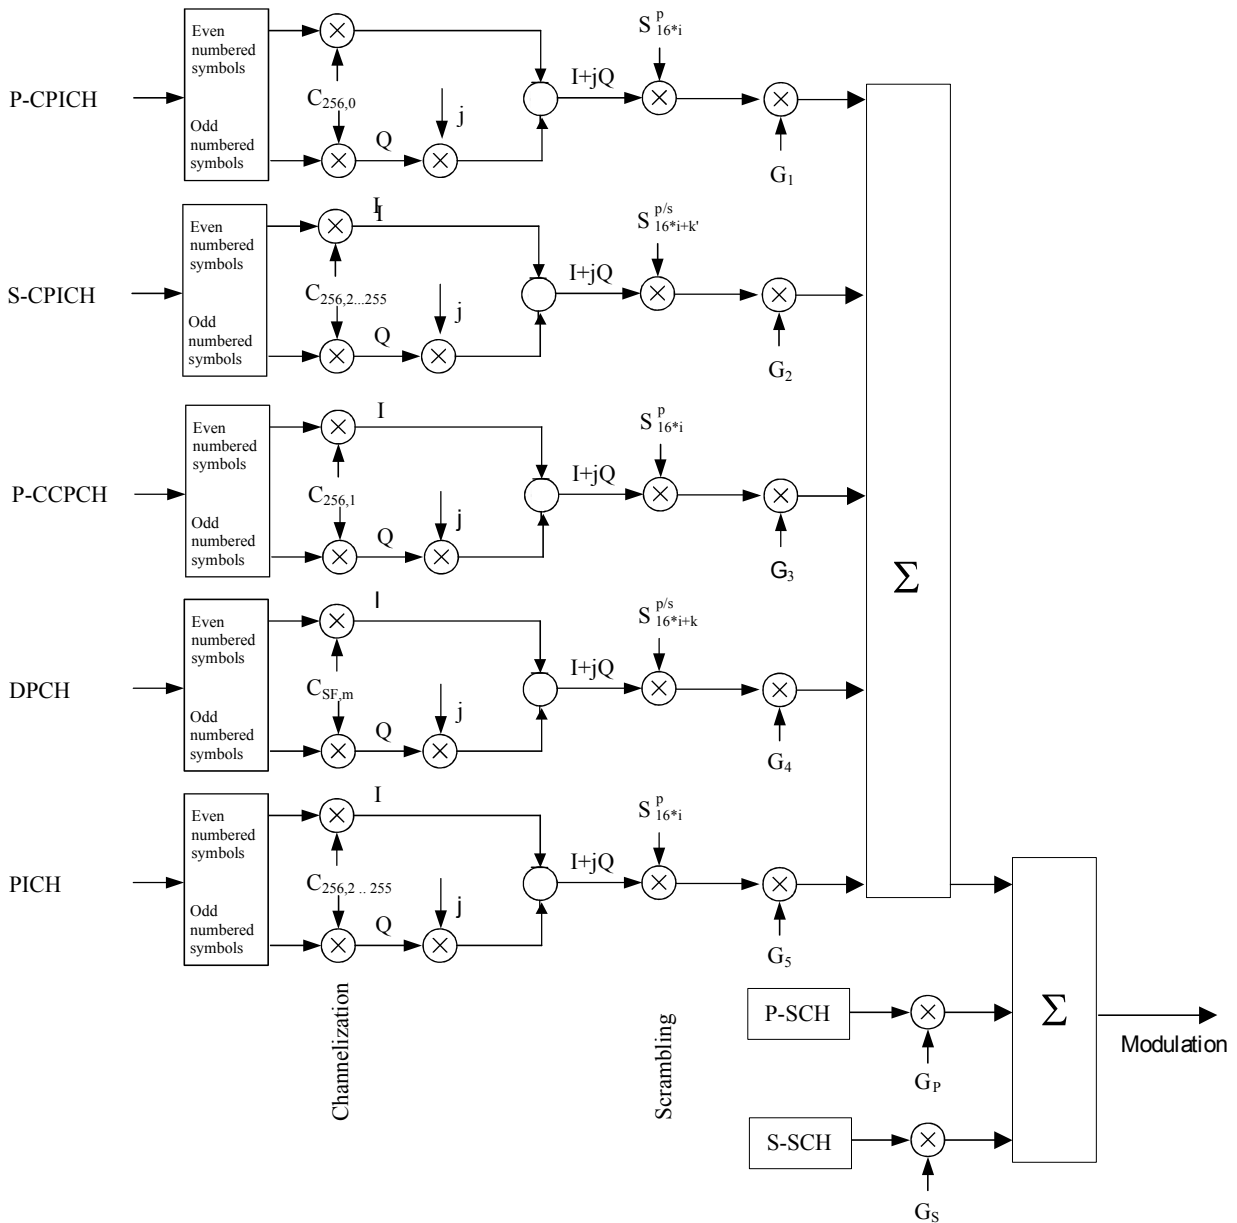

Fig. 4-62 Spreading of the downlink channels
The CMU uses the scheme defined in TS 25.213 to spread and combine the downlink channels (see Fig. 4-62 below). The real-valued P-CPICH, S-CPICH, P-CCPCH, DPCH and PICH symbols are first mapped to an I and Q branch. The I and Q branches of each channel are spread to the chip rate using the same channelization code $C_{SF,m}$. The channelization codes of the P-CPICH and P-CCPCH are fixed. The spreading factor (SF) for the DPCH is given by its slot format number (see Table 4-17 on p. 4.161) and the selectable *DPCH Channelization Code* m. The complex-valued chip sequences are scrambled with primary or secondary scrambling codes S^p or S^s ; see paragraph on Downlink scrambling codes on
The *SCH Level* softkey sets the level of the Primary Synchronization Channel (P-SCH) and the Secondary Synchronization Channel (S-SCH). The level is set relative the *Output Channel Power* or to the *P-CPICH Level abs.*, depending on the selected *Level Reference* (see p. 4.153). The two levels can be entered in two separate input fields. If it is defined relative to the *P-CPICH Level abs.*, the *P-SCH Level* is equal to the ratio of the weighting factors G_p/G_1 in Fig. 4-62 (see p. 4.146). The *S-SCH Level* is equal to the ratio of the weighting factors G_s/G_1 in Fig. 4-62.
The *P-CCPCH Level* softkey sets the level of the Primary Common Control Physical Channel (P-CCPCH). The level is set relative the *Output Channel Power* or to the *P-CPICH Level abs.*, depending on the selected *Level Reference* (see p. 4.153). If it is defined relative to the *P-CPICH Level abs.*, the *P-CCPCH Level* is equal to the ratio of the weighting factors G_2/G_1 in Fig. 4-62 (see p. 4.146).
The *PICH Level* softkey sets the level of the Page Indicator Channel (PICH). The level is set relative the *Output Channel Power* or to the *P-CPICH Level abs.*, depending on the selected *Level Reference* (see p. 4.153). If it is defined relative to the *P-CPICH Level abs.*, the *PICH Level* is equal to the ratio of the weighting factors G_4/G_1 in Fig. 4-62.
The *DPDCH Level* softkey sets the level of the data part (DPDCH) of the Dedicated Physical Channel (DPCH). The level is set relative the *Output Channel Power* or to the *P-CPICH Level abs.*, depending on the selected *Level Reference* (see p. 4.153). The level of the control part can be set to be different from the *DPDCH Level*; see *Power Offset* parameter on p. 4.156. For a 0-dB power offset and if it is defined relative to the *P-CPICH Level abs.*, the *DPDCH Level* is equal to the ratio of the weighting factors G_3/G_1 in Fig. 4-62 (see p. 4.146). The DPCH (including the DPCCH part) can be switched off by means of the *ON/OFF* key.